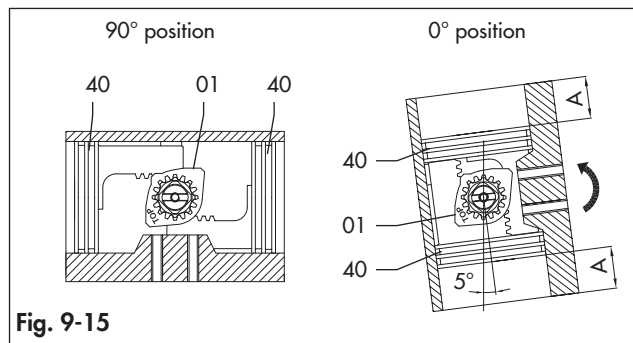

Fig. 9-15
- With pistons completely closed (0° position) as per Fig. 9-15, referring to the axis of the body, the rotation obtained must be:
- With pistons completely closed (0° position) as per Fig. 9-15 the dimension "A" must be the same on both sides
- With the actuator in close position (0° position) referring to Fig. 9-15 for pistons position, screw or unscrew the